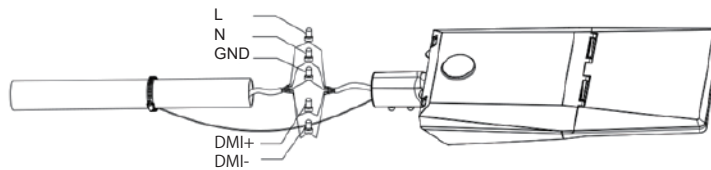

Figure 3. LED street light wiring.
- Connect the wires in the lamp pole to the input wires of the LED street light, and make sure that "L", "N", "GND", "DIM+", and "DIM-" correspond to each other. See Figure 3.